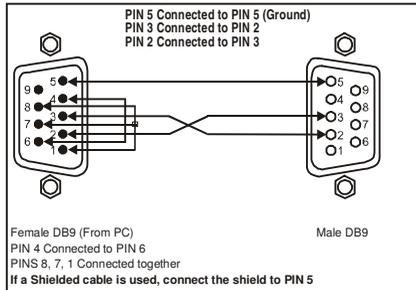

Figure 2: Connecting a PC without using a Null-modem Adapter
- Connect the RS-232 DB9 port on your PC to the RS-232 DB9 rear panel port on the **OMX-SW6x1B**, as Figure 2 illustrates